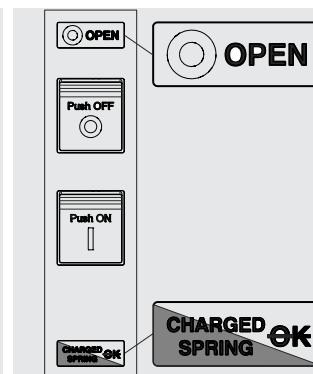

Figure 85
5. Circuit-breaker open with springs charged and not ready to close (see Figure 85). This state occurs in the following cases: